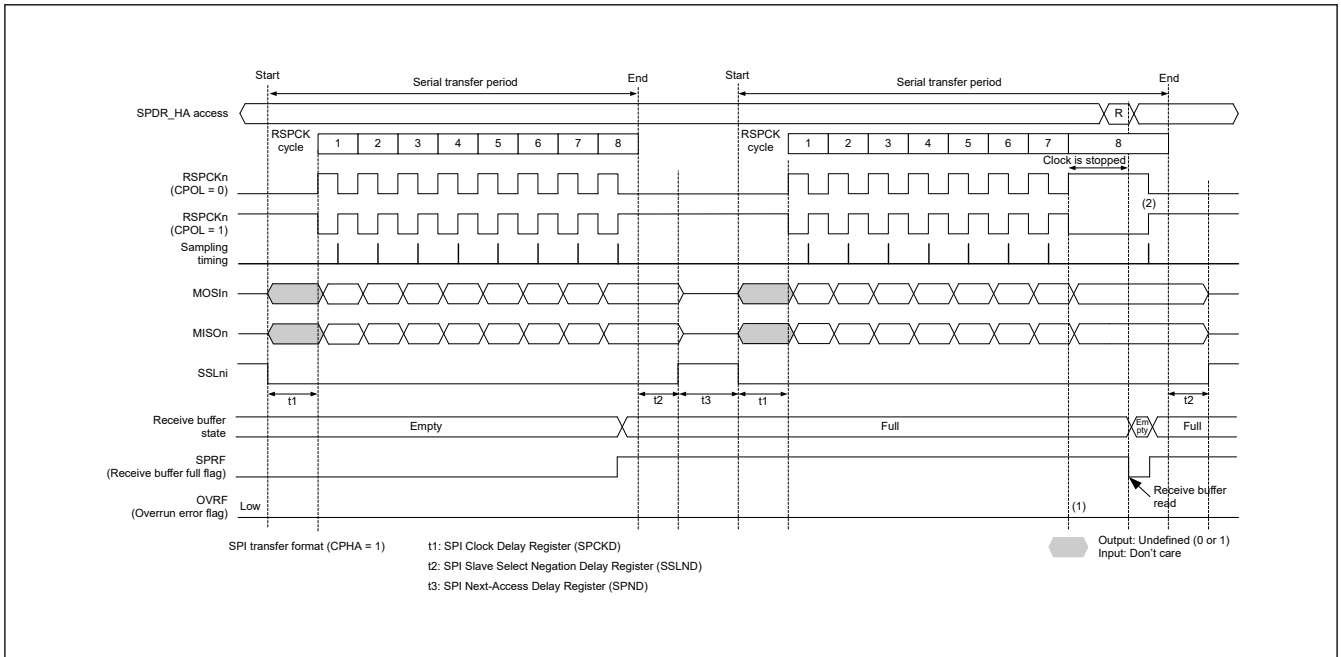
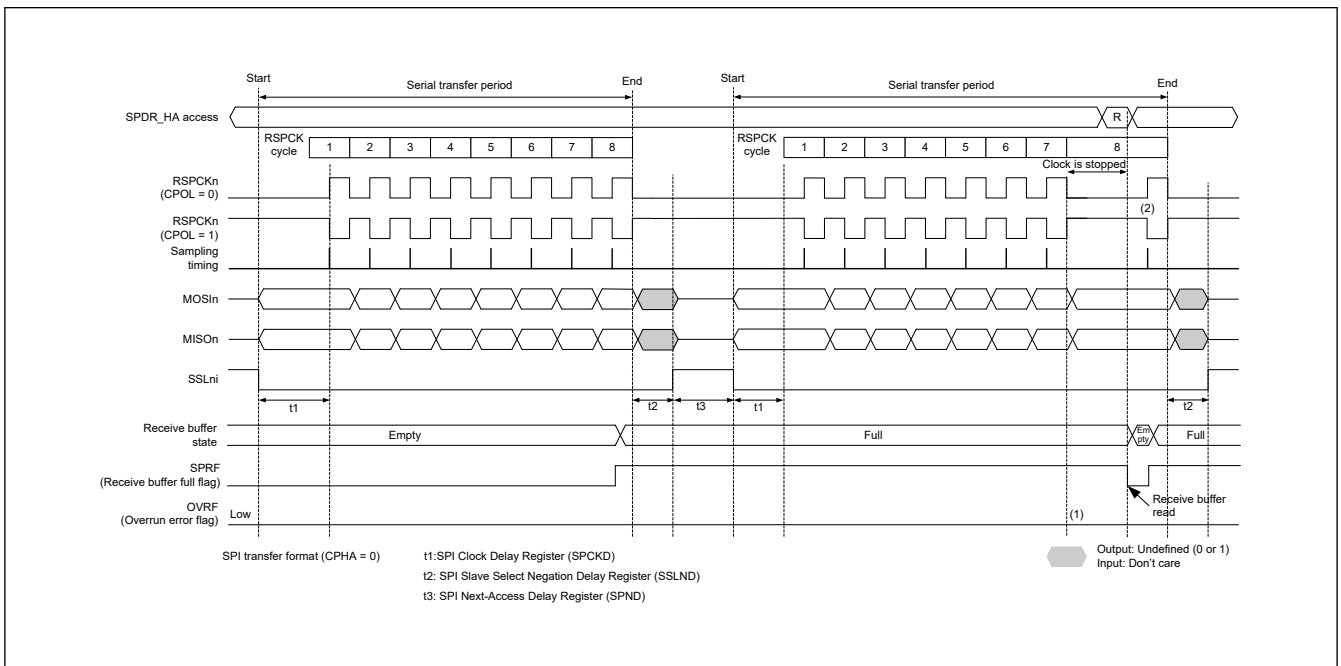

Figure 26.27 Clock stop waveform when serial transfer continues while receive buffer is full in master mode (CPHA = 1)
Figure 26.28 Clock stop waveform when serial transfer continues while receive buffer is full in master mode (CPHA = 0)
When the RSPCK auto-stop function is enabled (SPCR2.SCKASE = 1) in master mode, an overrun error does not occur. Figure 26.27 and Figure 26.28 show the clock stop waveform when a serial transfer continues while the receive buffer is full in master mode.
The operation of the flags at timings (1) and (2) in Figure 26.27 and Figure 26.28 is as follows: